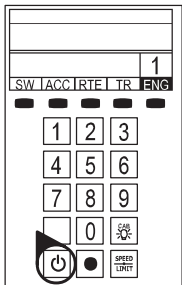

Figure 4. LEGACY start-up
6. Press the Start Up key on your LEGACY CAB-2 Remote, shown in Figure 4. Then, throttle up and move 'em out! Your engine sound will start up, and the locomotive-specific touch screen buttons will populate the remote. For more information on operating your locomotive with the LEGACY system, please refer to the LEGACY section of this manual. Additional information is also found in the LEGACY System Manual, available online at [www.lionel.com](http://www.lionel.com).